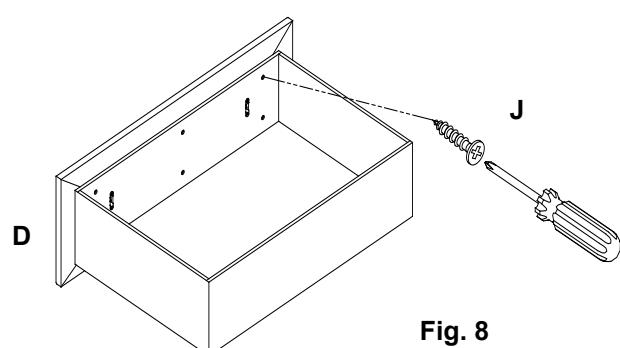

Fig. 8
Once the Drawer Front (D) is secured, use a Philips Head Screwdriver (not included) to insert 6x Screws (J) from the drawer box to the Drawer Front (D). See **Fig. 8**.